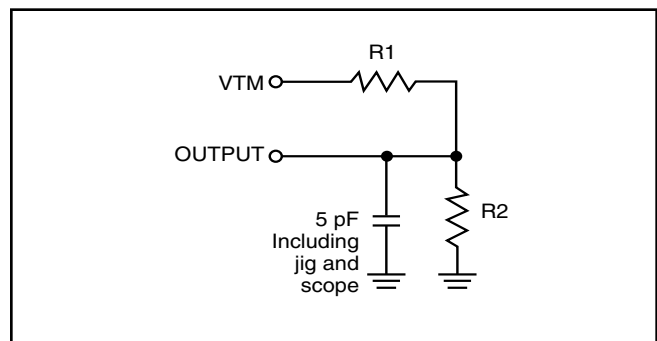

Figure 2
2. Tested with the load in Figure 2. Transition is measured ±500 mV from steady-state voltage. Not 100% tested.
3. Tested with the load in Figure 2. Transition is measured  $\pm 500$  mV from steady-state voltage. Not 100% tested.